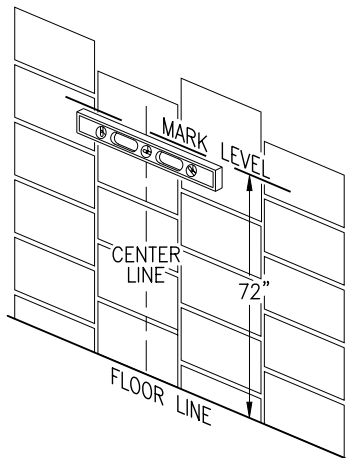

Figure 3 - Center-line Mark
1. Determine and mark the vertical center line for installation of the AutoSwitch Console. (Figure 3).
3. Remove the mounting bracket from the rear of the AutoSwitch Console by removing the nuts at the bottom of the bracket. Place the upper edge of the bracket cross-member on the horizontal line so that it is centered with the vertical line. Holding the bracket with the slotted extensions away from the wall, mark the location of the two mounting bolts (Figure 3).